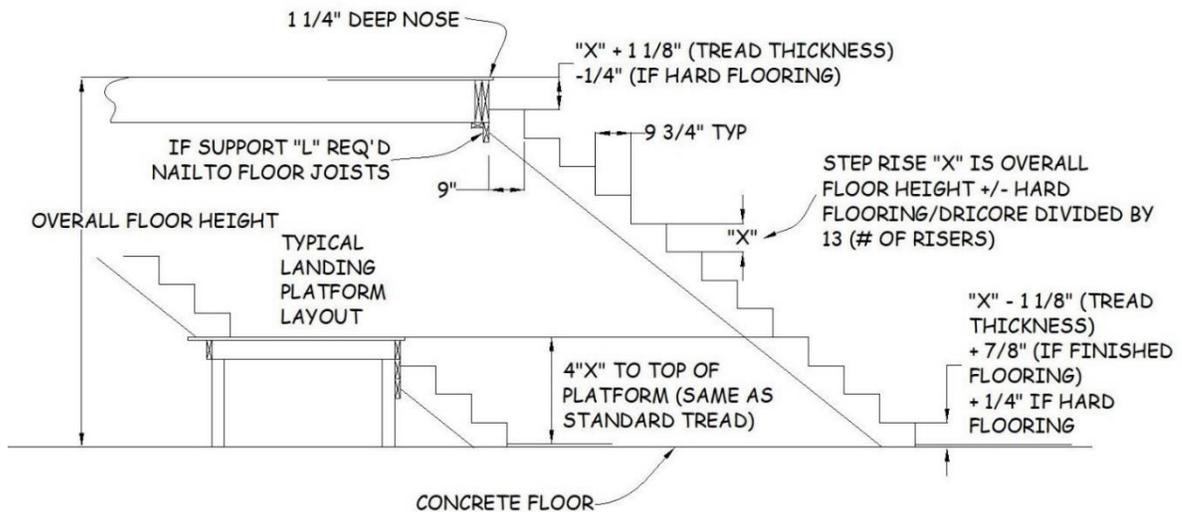

Figure 4-4. Stair Stringer Installation.
4. Reduce the height of the last riser at the bottom of the stringer by $1\frac{1}{8}$ " (the thickness of the tread), unless the basement floor is to be finished. If the basement floor is to be finished, reduce the height of the riser by only $\frac{1}{4}$ ". This will accommodate the $1\frac{1}{8}$ " thickness of the tread and the $\frac{7}{8}$ " thickness of the DRIcore (see Figure 4-4).
12. Use the last calculation in Figure 4-2 (Top Step Rise) and measure that distance down from the underside of the deck. Make a line on the stairwell framing at this point. This line marks the location of the tops of the three stringers (Figure 4-4).
1. A landing, if required, is a "joist" box made of 2x6's covered with ¾" floor decking with floor joists installed on 16" centers (see Figure 4-4).